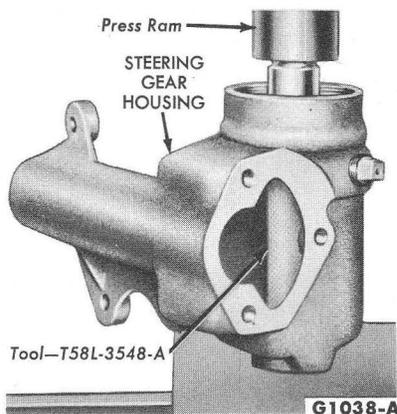

FIG. 9—Steering Shaft Lower Bearing Cup Installation
2. If the steering shaft upper and/or lower bearing cup has been removed, press a new bearing cup into the housing (Figs. 9 or 10).